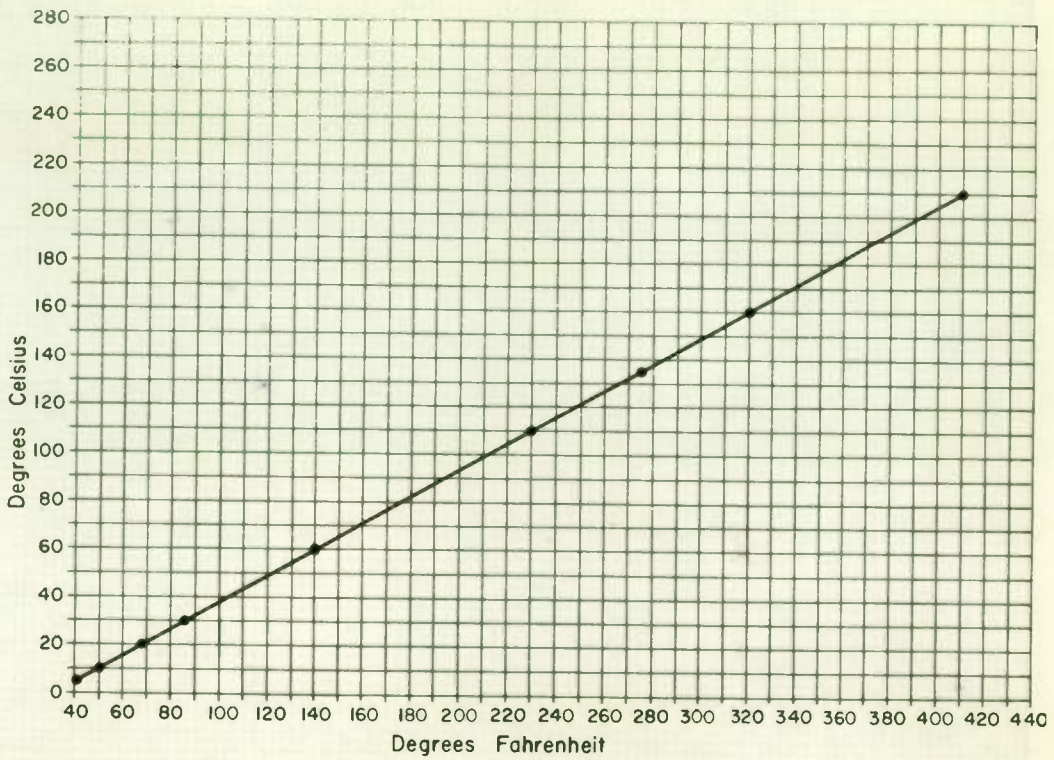

Fig. 4
3. Use the graph of Fig. 4 to complete the following table:
2. (a) 5; (b) 10; (c) 20; (d) 30; (e) 60; (f) 110; (g) 135; (h) 160; (i) 210; see Fig. 4.